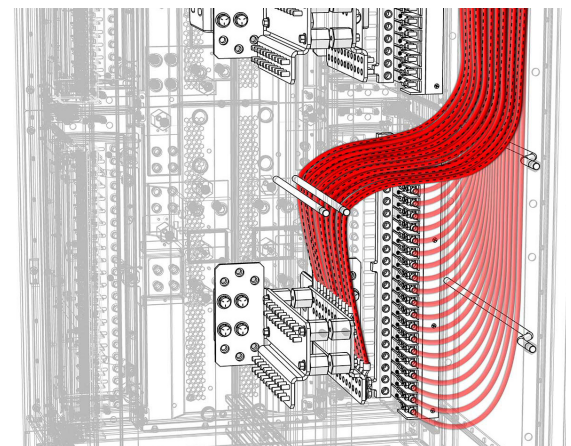

Figure 18. RTN Output Connections
- Step 3. Install all return output cables/lugs to the return output studs located on the return output bus and tighten hardware (see Figure 18).